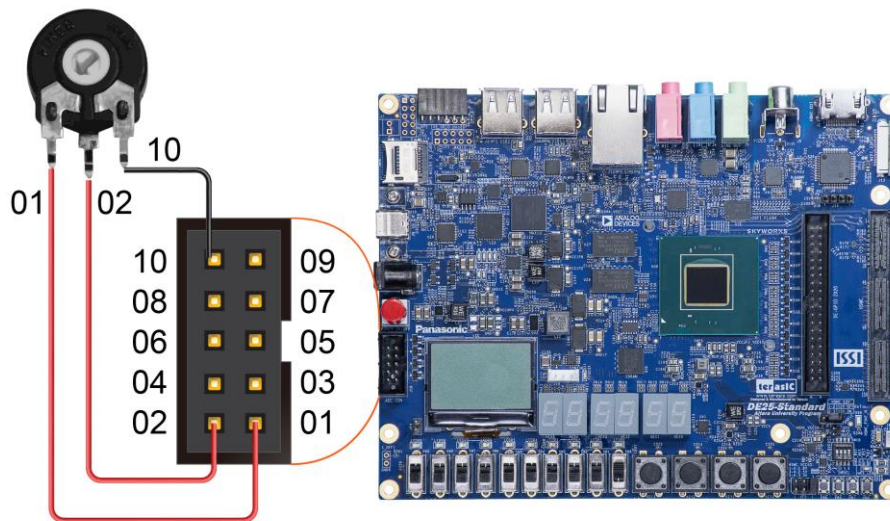

Figure 2-25 Hardware setup for the ADC reading demonstration
1. Connect the trimmer to one of eight for ADC channel on the 2x5 header, as shown in **Figure 2-25**, as well as the +5V and GND signals. The setup shown below is connected to ADC channel 0. **Note, the input voltage do no exceeds 3.3V.**